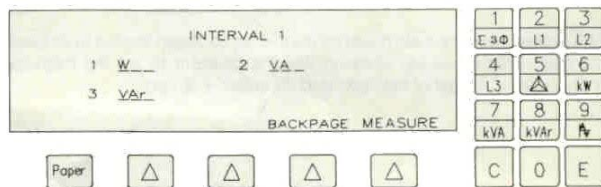

Fig. 3.36
- For example, [1] selects time interval1 for alarm setting, and calls up the page for selection of the type of parameter for which the alarm value is to be set (see Fig. 3.36).